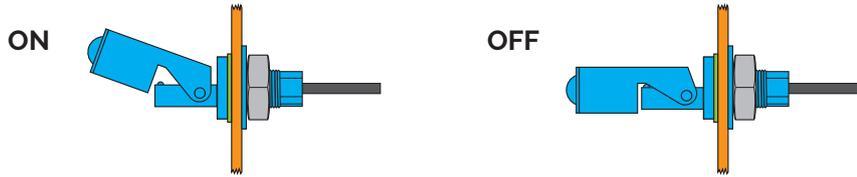

Figure 6. Delta Broken Finger Float on and off positions.
4. Position the Delta Broken Finger Float with the activation arm located in the upwards position as shown in Figure 6.